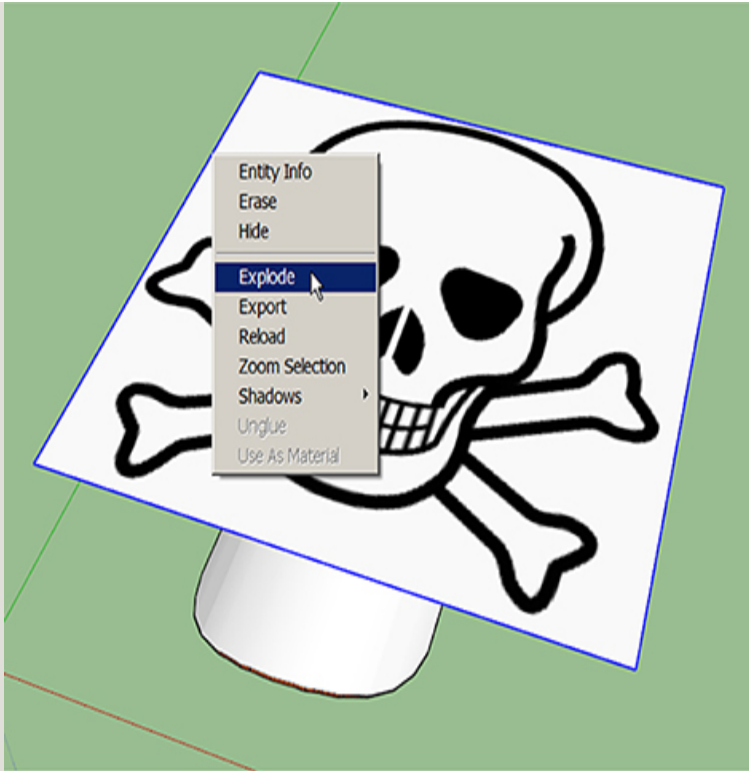

Figure 5-45 Right-click a highlighted texture, and choose Texture > Projected.
1. Highlight the texture, right-click, and choose Texture > Projected (Figure 5-45).